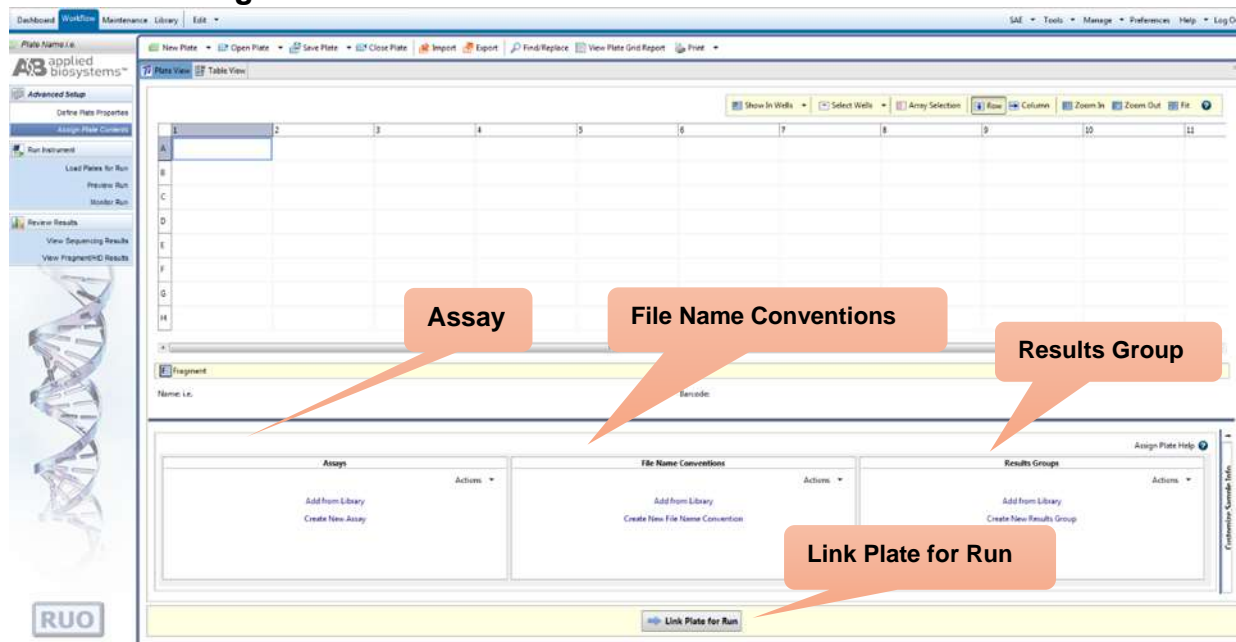

Figure 12. Screenshot for the “Assign Plate Contents” window on Applied Biosystems 3500 Data Collection software
- In the *Assign Plate Window* (Figure 12), in the bottom left corner, in a box “Assay”, click *Add from Library* option to select the *Assay* created in Step 3.1.4. Click on the Add to Plate button and close the window.